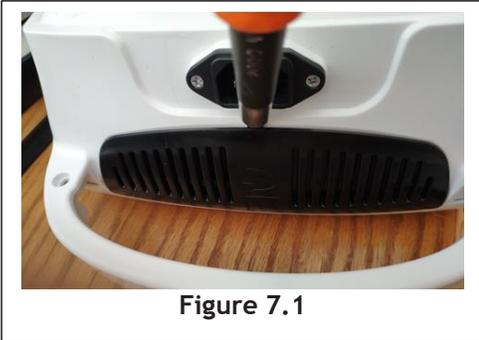

Figure 7.1
3. Remove Fan Grill. Use a Flat Blade Screwdriver to gently pry the Fan Grill free. **See Figure 7.1.**